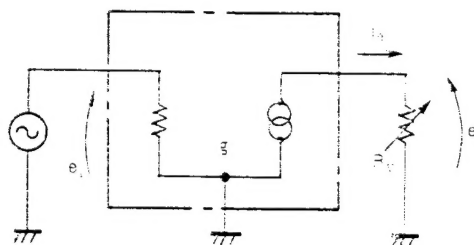

Fig. 7.
In TA-AX7, the input voltage signal is converted once to a current signal, and the signal is transmitted by changing it back to voltage form through a resistor. Gain control is accomplished through this variable resistor. In Figure 7, if V-I amp input is  $e_i$  (V) and output current is  $i_o$  (A),